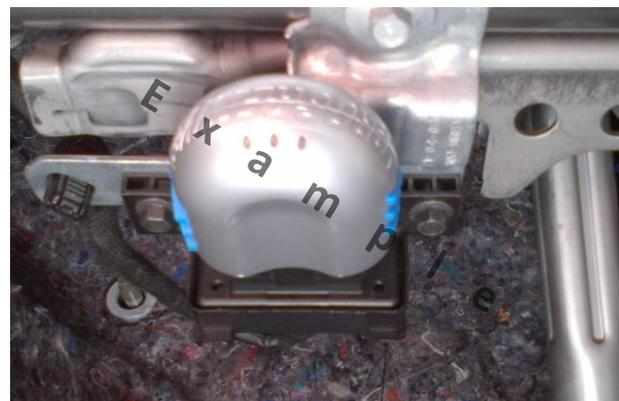

Figure 1 - Insurance data logger connected to the DLC / Gateway module
- Insurance Data Logger (Figure 1)